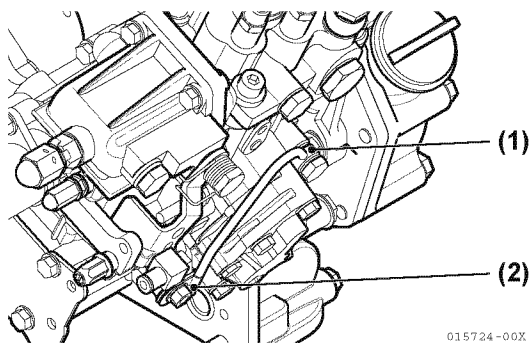

Figure 6-30
13. Disconnect the lubricating oil line (Figure 6-30, (1)) and the clamp (Figure 6-30, (2)) from the pump. *NOTICE: Take care not to damage or bend the oil line. For 4JH5E and 3JH5E models, it may be preferable to remove the complete oil line assembly from the engine before proceeding.*